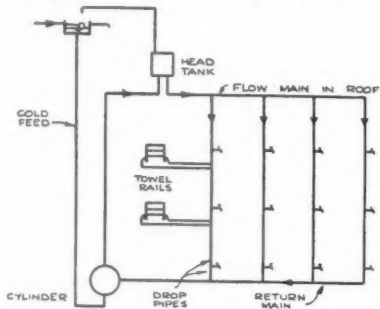

Figure 160. Down feed hot water service system.
1. It is assumed that the system is of plain up-feed riser type. An alternative arrangement of this system is given on Fig. 160, which operates on the down-feed principle. This latter system is not favoured by the authors, who find the up-feed system meets all practical cases satisfactorily. The down-feed method involves much large piping at or near roof level which is often difficult to accommodate, and the